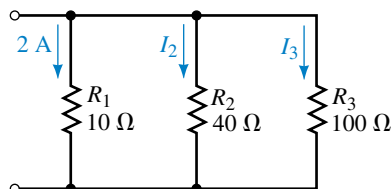

FIGURE 6-64
18. Refer to the network of Figure 6-64: